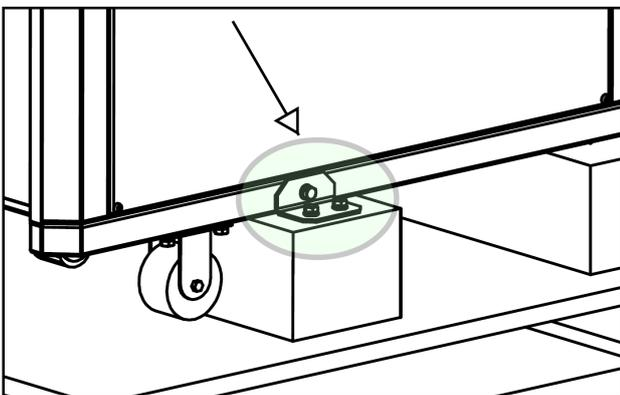

Fig. 5
As shown in Fig. 5, the machine is mounted on a pallet by four (4) L shaped brackets. Remove the 4 brackets by loosening the bolts. Lift the machine by the forklift and remove the pallet.